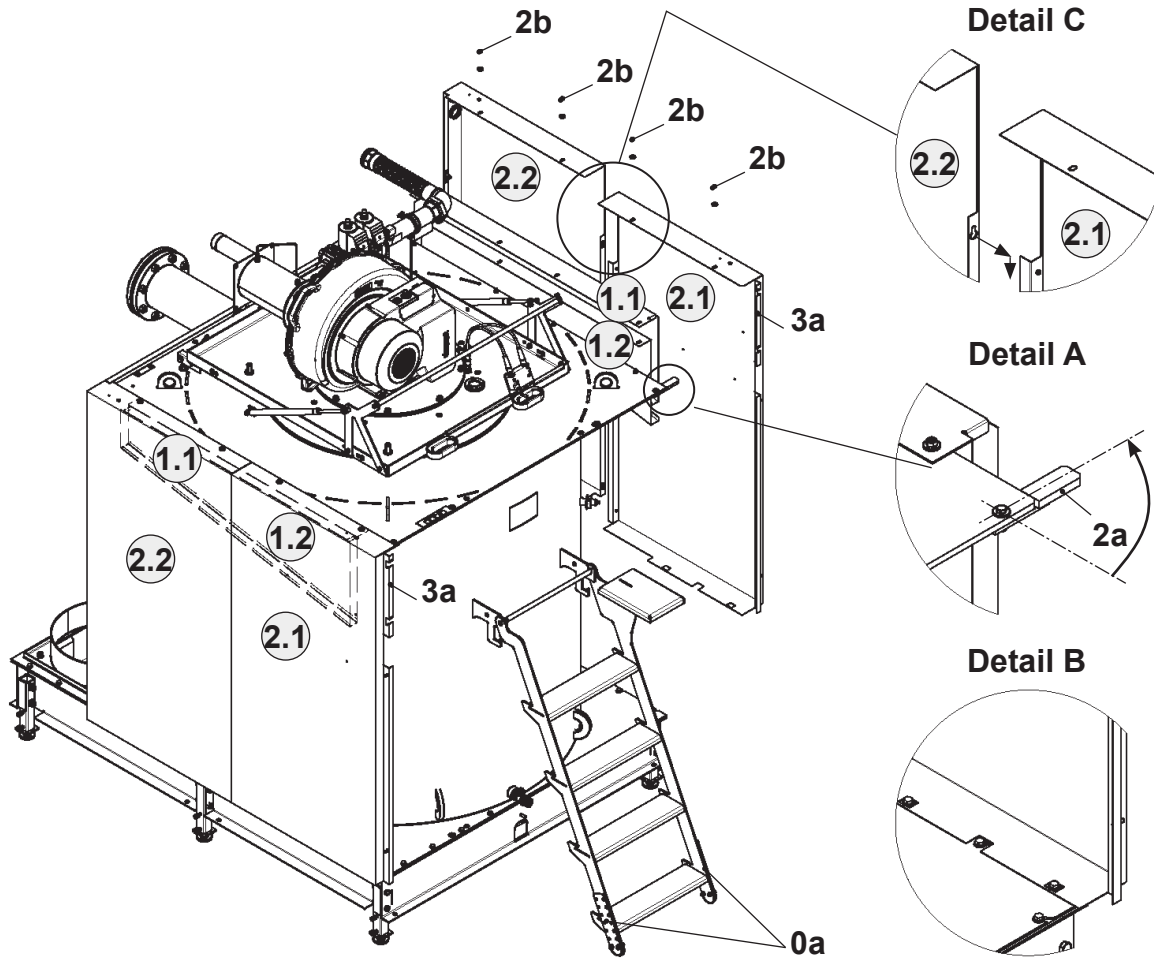

Fig. 12
- Hang the side wall section (2.1 or 2) on the boiler in such a way that the recesses at the top and bottom are positioned over the screws («Fig. 12», page 28, detail B).
- Hook the lowest rear wall section (5) with the side recesses (5a) onto the corresponding screw heads (5b) of the side walls.
- Align lower side wall (2 or 2.1/2.2, Fig. 12) and fix position by tightening the screws (2a, Fig. 12).
- Installing upper side wall (7):